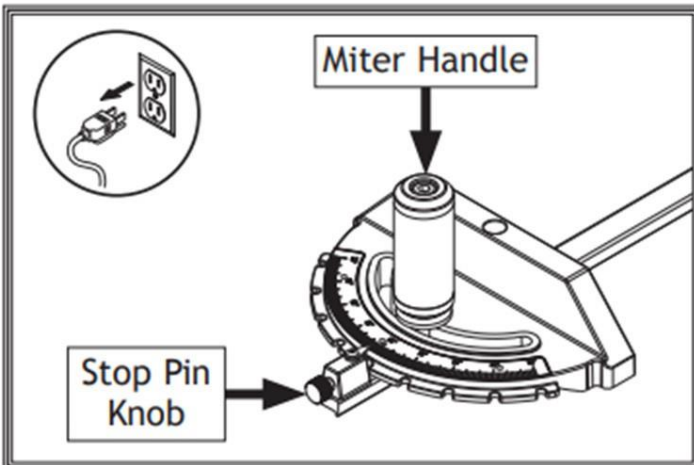

Figure 64: Miter handle adjustment.
- 3 - Loosen the miter's handle pull the stop pin out, see figure 64.